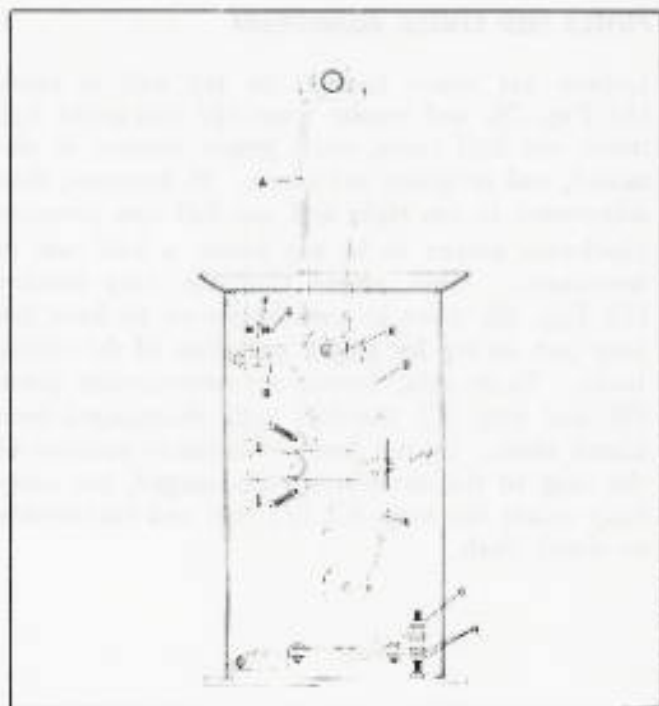

Fig. 31.
To increase tension on the spindle V-Belts (A) the jackshaft mounting bracket (B) Fig. 31, must be shifted down. This may be done as follows:
1. Loosen nut (C) Fig. 31, on the motor mounting plate so the variable speed drive belts (D) and (E) have considerable play.
2. Loosen nut (F) Fig. 31, and tighten screw (G) until the spindle belts (A) have the desired tension. Then tighten nut (F).
Tension adjustment for the variable speed belts (D) and (E) Fig. 31, is made by tightening or loosening the nuts (C) and (H) on the motor mounting plate.